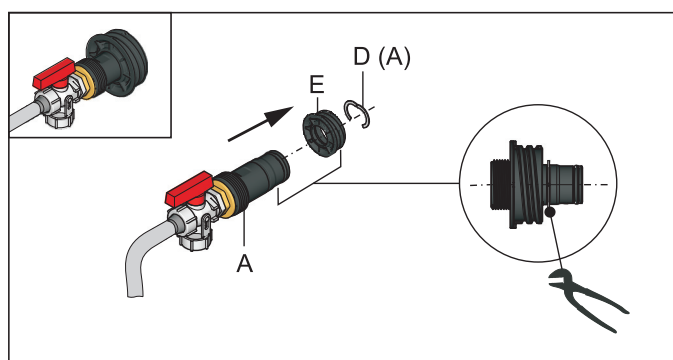

Fig. 5-3 Completing the KFE filling connection
- 3 Insert the KFE filling connection in the threaded piece (fig. 5-3, item E) and secure with the clamping piece (fig. 5-3, item D).